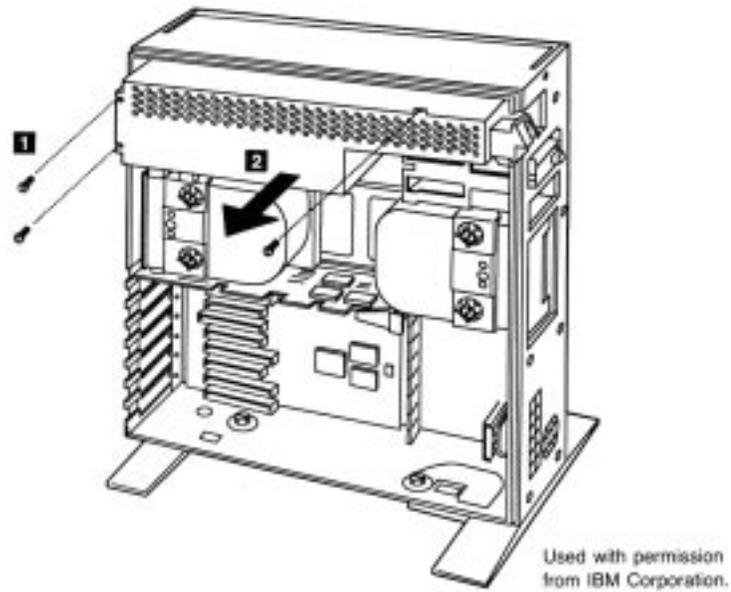

Fig. 3.40
3. Lift the power supply out the side of the unit (see fig. 3.40).